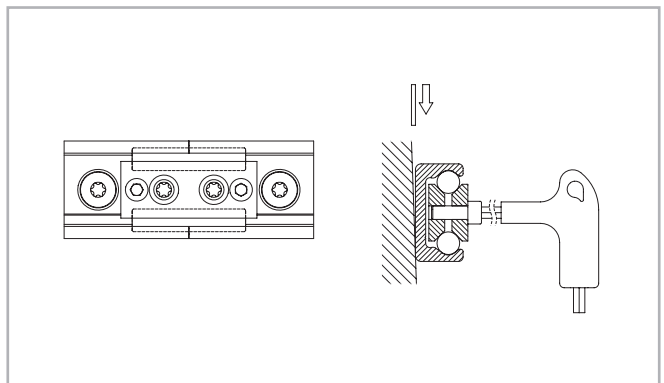

Fig. 167
- (3) Place the alignment fixture on the rail joint and tighten both set screws uniformly, until the raceways are aligned (see fig. 167).
- (4) After the previous step (3) it must be checked if both rail backs lie evenly on the mounting surface. If a gap has formed there, this must be shimmed.